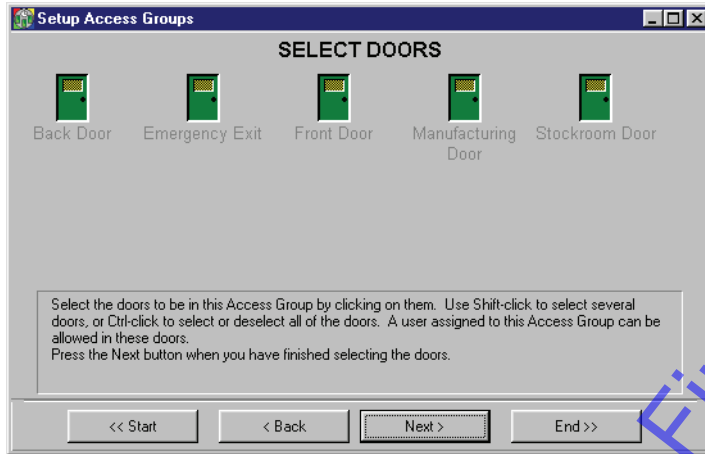

Figure 3-32: Select Doors Window - Available Doors
4. Click on the  button and the Select Doors window appears (see Figure 3-32).
5. The Select Doors window in Figure 3-32 displays all doors recognized by the system. Click on the doors to be included in this access group. For this example, click on the **Back Door**, **Front Door**, and **Manufacturing Door** icons. The window should look similar to Figure 3-33. If an incorrect door was selected, simply click on that door again. Each click on a door toggles its state between selected and deselected.